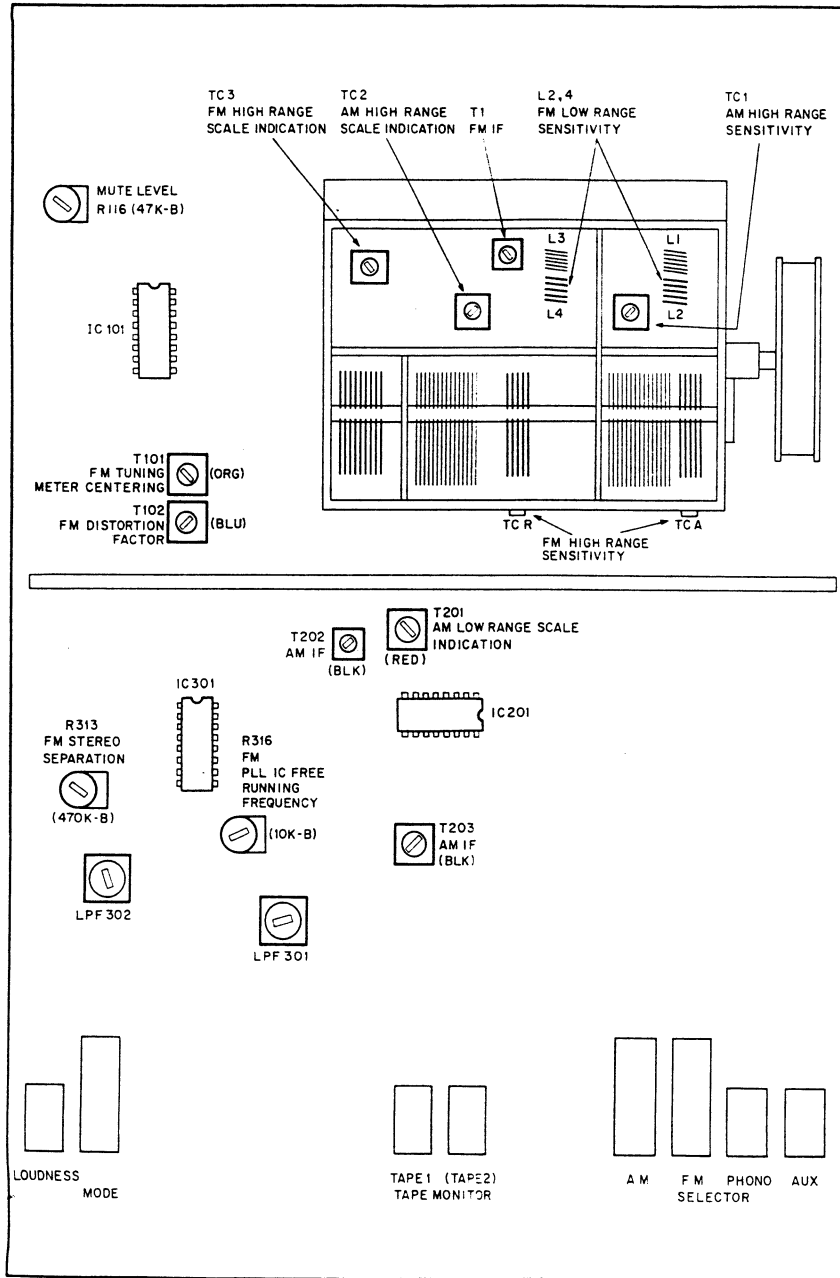

Fig. 9 Tuner EQ P.C Board
1. FM ADJUSTMENT (Refer to Figs. 9, 10)
2. AM ADJUSTMENT (Refer to Figs. 9, 11, 12)